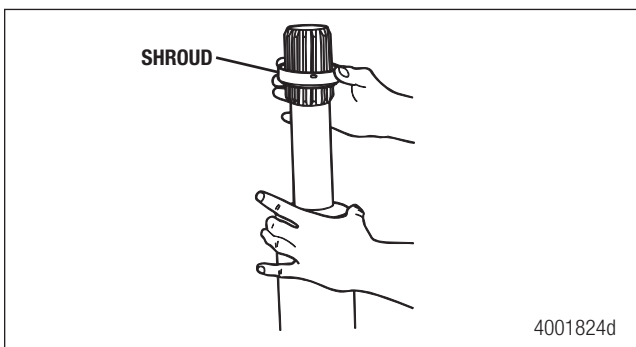

Figure 8.6
1. Install the shroud onto the slip shaft. Figure 8.6.